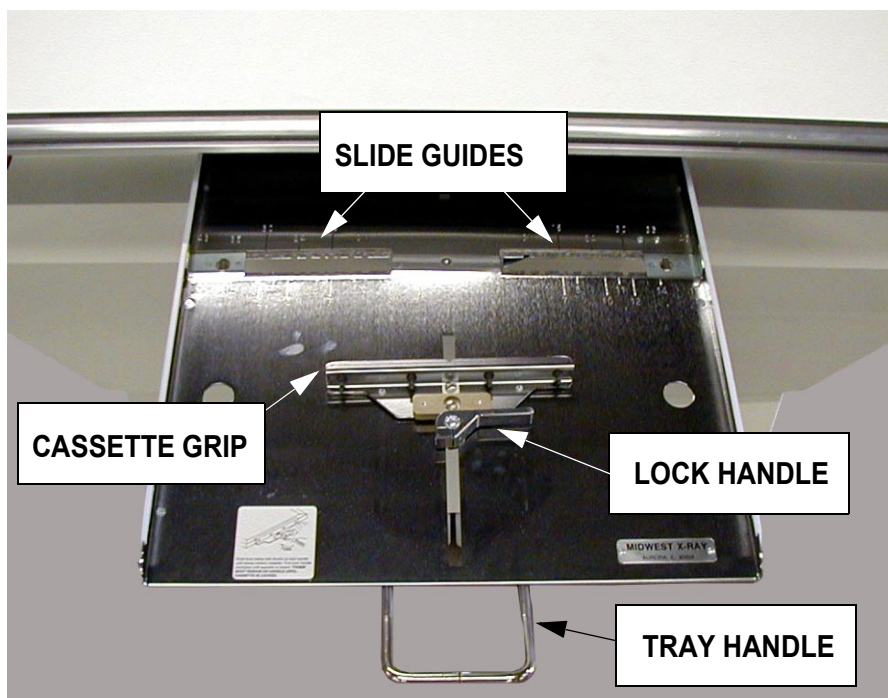

Figure 8. Midwest Cassette Film Tray
2. Pull cassette tray from receptor using tray handle (see Figure 8).